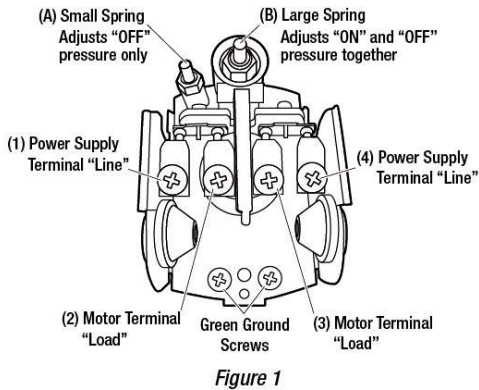

Figure 1
3. Attach motor wires to the terminals marked "LOAD" or "2 and 3" terminals. Attach the ground wire to the Green Ground Screw. See Figures 1 and 2.
4. Attach power supply wires to the terminals marked "LINE" or "1 and 4" terminals. Attach the ground wire to the Green Ground screw. See Figures 1 and 2.
3. Turn the nut on the LARGE adjustment spring (B), clockwise 360° (1 full turn) for each 3 PSI you wish to increase your system's water pressure. If you would like to adjust the "Cut-Out" pressure only, you will need to adjust the nut on the SMALL spring (A) clockwise 360° (1 full turn) for each 3 PSI you wish to increase your system's "Cut-Out" water pressure. For decreasing pressure, turn the nuts counterclockwise. See Figure 1.